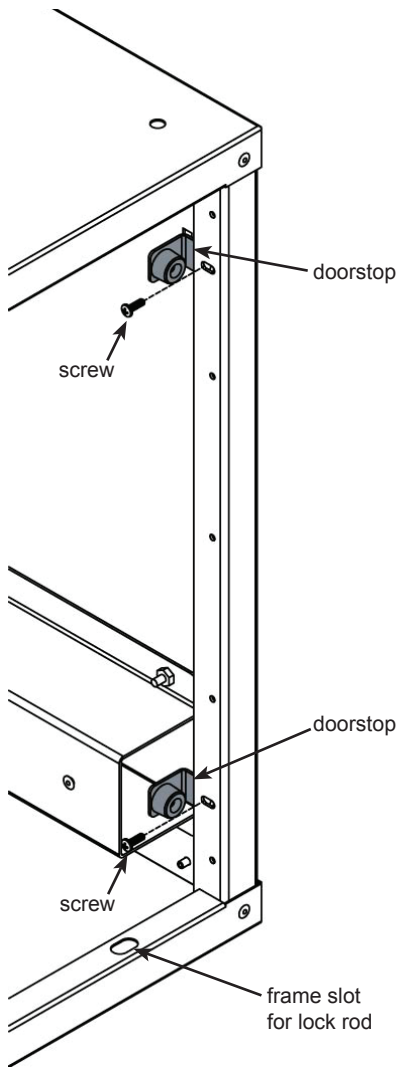

Figure 3B
- C. Remove the two door stops. **Figure 3B.** Re-attach stops on the opposite side of the locker.
- D. Flip the door around and attach to the opposite side of the locker with the (5) previously removed screws and tighten securely.